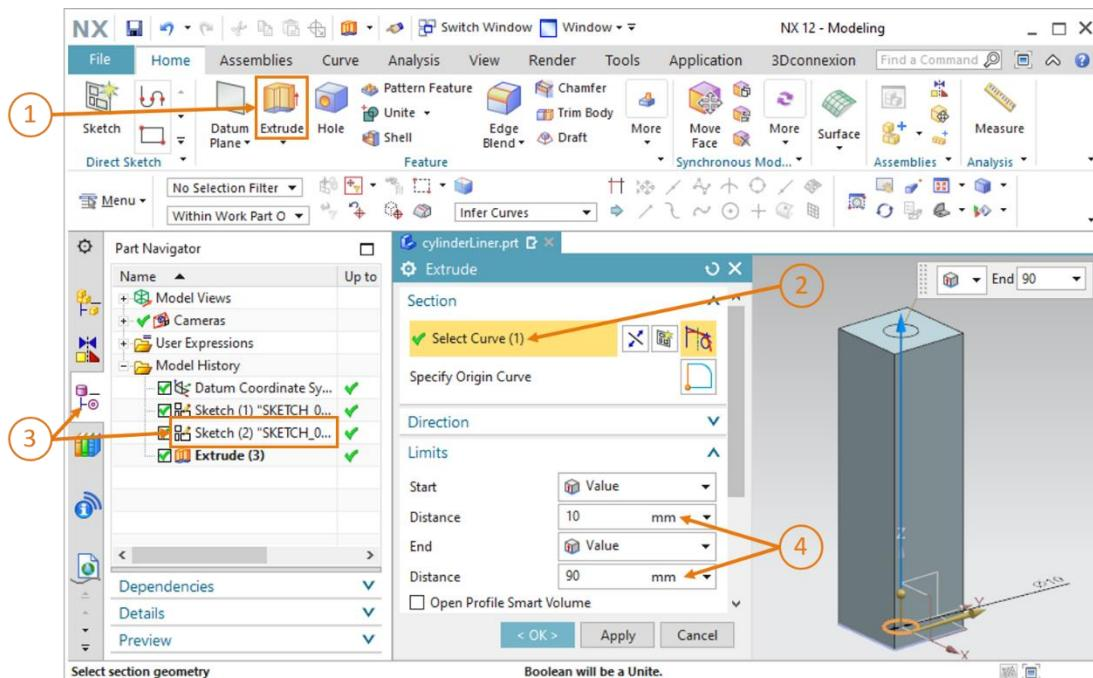

Figure 34: Extruding a hole in the base body
- Following a very similar principle to Chapter 7.1.5, a hole is also to be introduced into the base body of the thrust cylinder. Execute the "Extrude" command (see Figure 34, step 1) and select the circle as the sketch. You will find this in the sketch named "**Sketch (2)** "SKETCH\_001" " (see Figure 34, steps 2+3). Because the parameters dictate that the hole is to extend only 80 mm, a start value with a distance of **10 mm** and an end value with a distance of **90 mm** must be specified (see Figure 34, step 4).